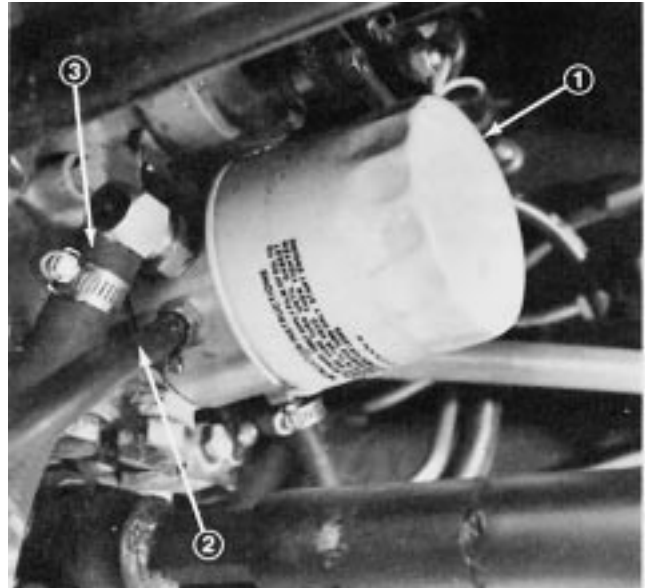

Figure 41
3. Clean the area around the hydraulic oil filter and remove the filter (Fig. 41).